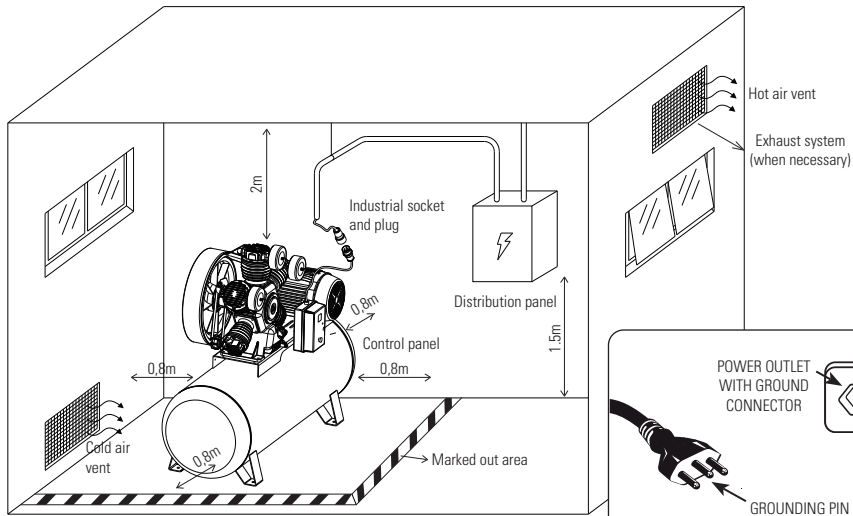

FIGURE 7.10 - DETAIL OF THE COMPRESSOR POWER SUPPLY AND INSTALLATION FROM THE DISTRIBUTION PANEL
- The maximum recommended ambient temperature for operation is 40 °C and minimum of 5 °C. Install an exhaust system if necessary (Figure 7.10).
- Properly mark and delineate an area around the compressor to alert and prevent collisions with the equipment (Figure 7.10).